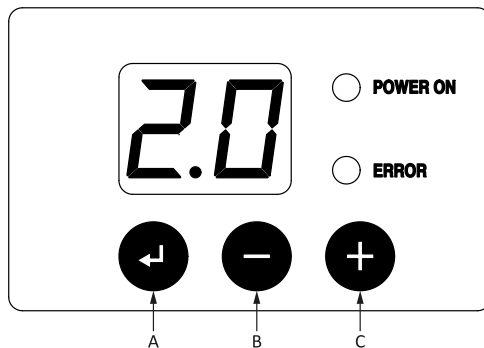

Fig. 19
**8.18 Setting of CORE Mini** see Fig. 19